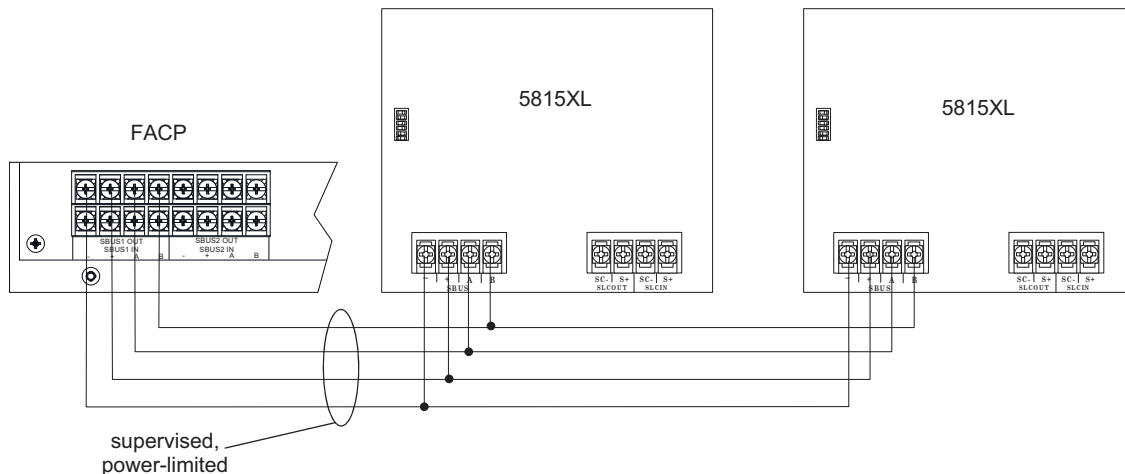

Figure 4.31 5815XL Connection to Main Panel Assembly
3. Connect the 5815XL to the control panel. (See Figure 4.31.)
Connect the 5815XL to the control panel as shown in Figure 4.31. After the 5815XL is connected to the panel, it must be added to the system. This programming steps are described in Section 8.2.2.